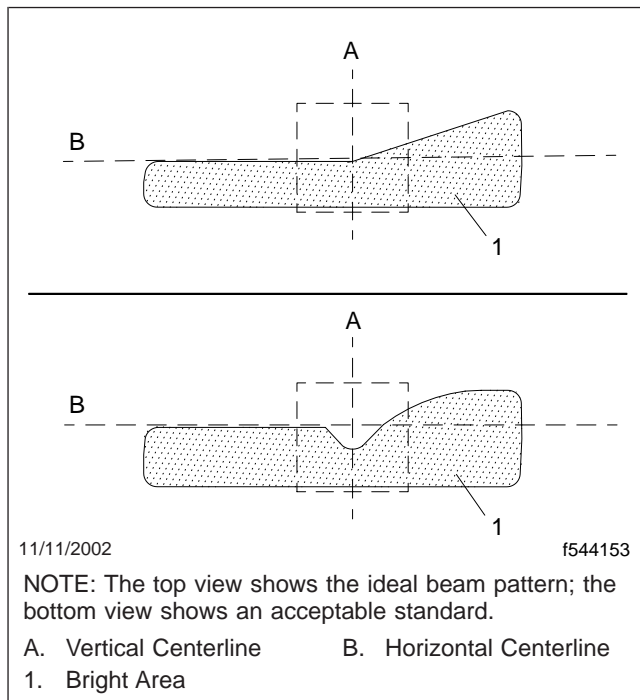

Fig. 15.3, Headlight Beam Pattern
5. Turn on the headlights to the low-beam setting. See Fig. 15.3 for the ideal and acceptable patterns for both headlights.